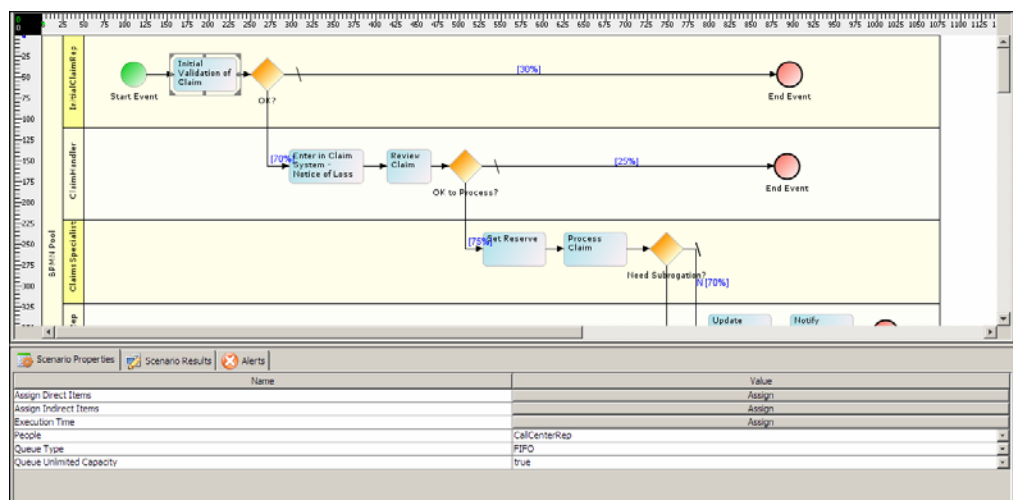

Figure 10.10: Scenario Properties
2. To assign a resource to an activity, double-click the activity in the graph canvas area. Properties of the activity are shown in the Scenario Properties panel in the bottom pane (see Figure 10.10).